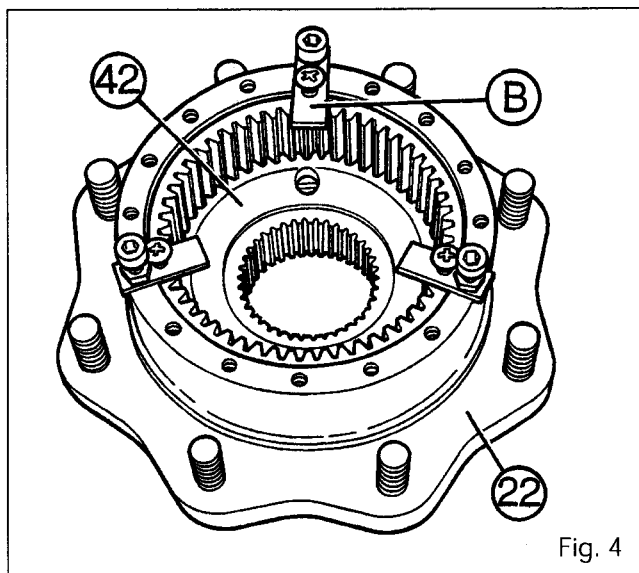

Fig. 4
38. Lubricate the splines on the swivel housing (47). Use three or four flanges ("B"), (manufactured locally according to the category of axle) screwed in diametrically opposite positions in the holes in the hub. Attach the ring gear carrier (42) to the hub (22) (Fig. 4).